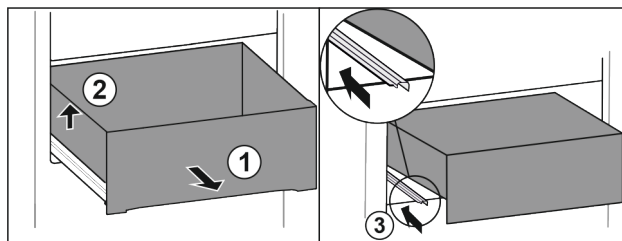

Fig. 95
- ▶ Pull out drawer as far as it will go. Fig. 95 (1)
- ▶ Lift drawer on the left. Fig. 95 (2)
- ▶ Insert left rail. Fig. 95 (3)